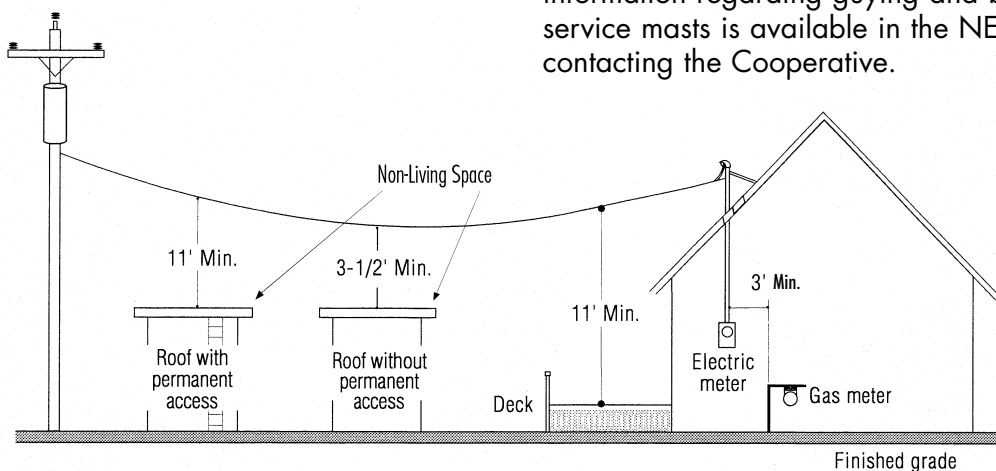

Figure 7 Minimum clearances over other structures
Service lines passing over the roof of another structure, but not attached to that structure, must maintain the minimum clearances shown in Figure 7, page 10. Service lines passing over a deck must maintain a minimum clearance of 11 feet. See Figure 7, page 10.
- The top of the service mast must be in compliance with the latest versions of the National Electrical Code. For typical height requirements see Figure 7 on page 10.